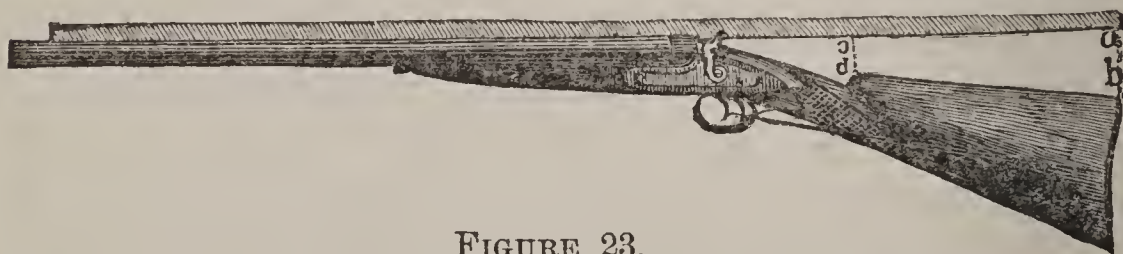

FIGURE 23.
The cut, Fig. 23, gives a better idea of what the stock should be. Place a rule or straight-edge upon
*Measure for the Stock.*—Now measure for the drop of the stock, which is illustrated in Fig. 23. From the line *a* to *b*, which is a continuation of a line along the top of the barrels, may be, for instance about three inches. Cut the stock away on top to this measurement, and fit on the butt plate. To get the length of the breech, measure from the spot where the end of the front trigger will come, and this measurement extended, straight back to the centre of the butt, gives the length. For a person with long arms about fifteen and a half inches is enough; about fourteen and a half for a person with ordinary length of arm, and thirteen and a half or thirteen and three-quarters for a person with short arms.